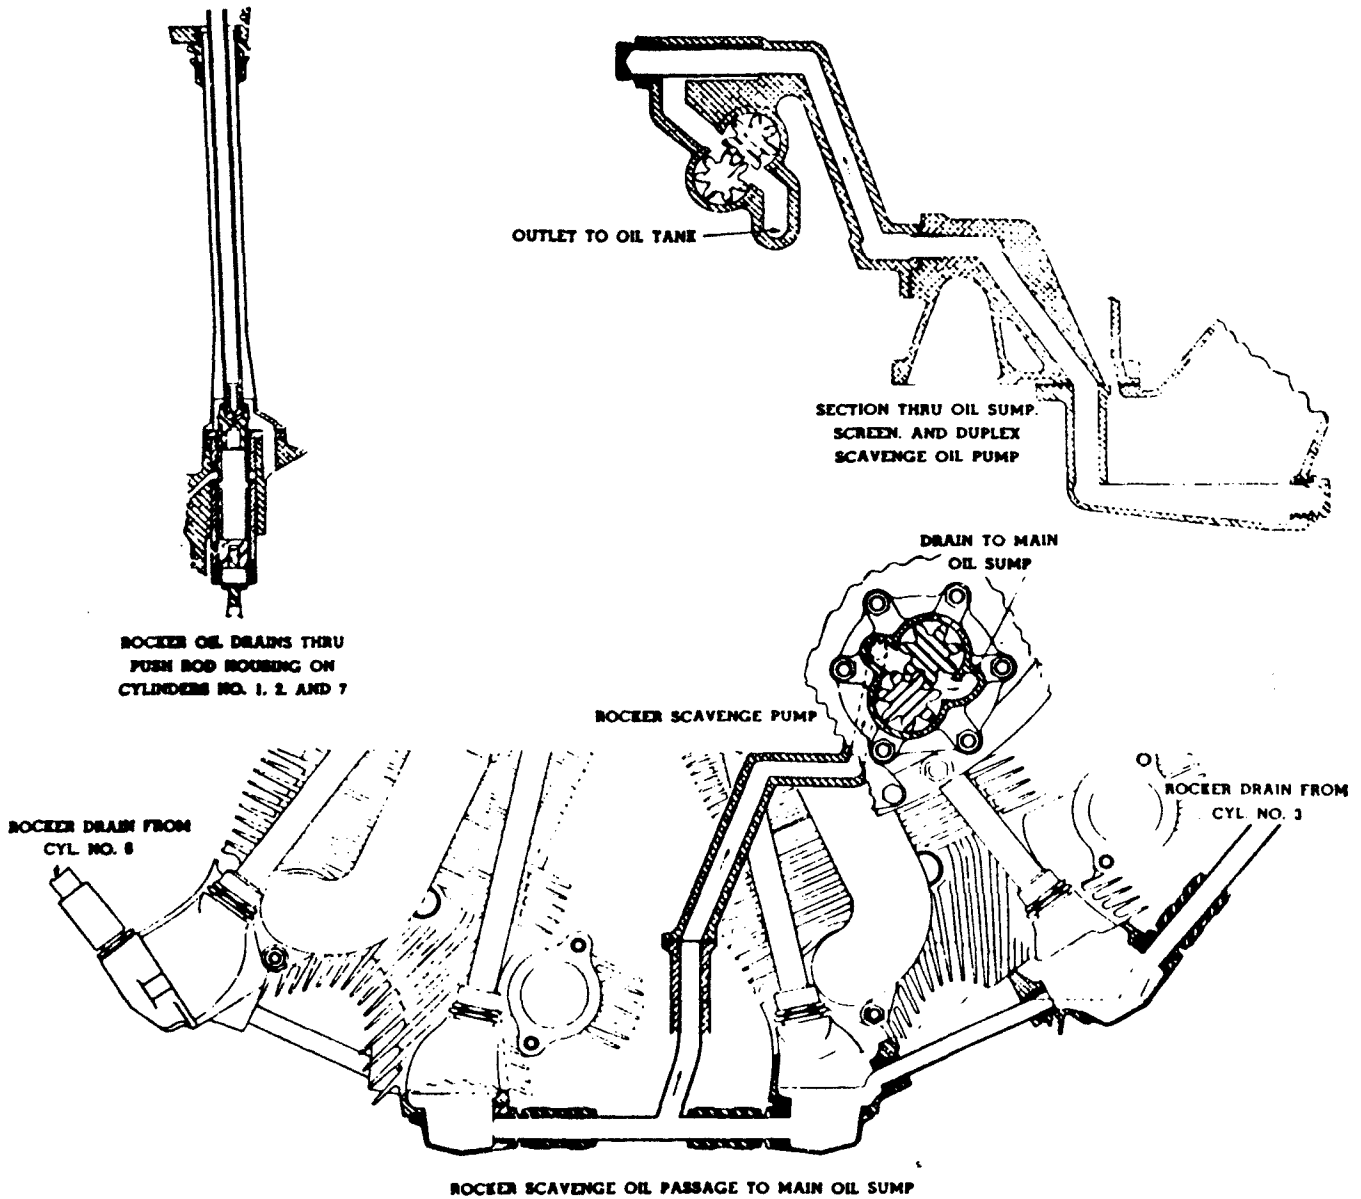

Figure 26 — Scavenge Oil System Diagram
e. Rocker Scavenge Oil (See figure 26)
f. Main Scavenge Oil (See figure 26)